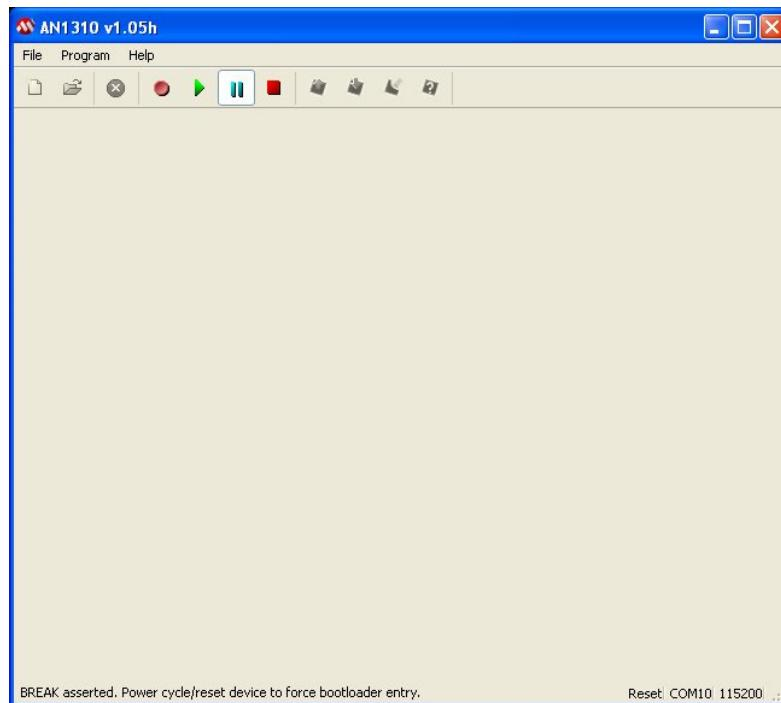

**Figure 21. Bootstrap Loader Settings Window.**
5. Click on the 'Settings' item from the drop down list or press <F12>. The Settings window will be displayed, Figure 21.
6. Select the COM port to which the Telran TDK USB or Sensor Board is connected. Ensure that Bootloader Baud Rate and Write Options are as shown in, Figure 21. Click the 'OK' button and return to the main screen, Figure 19.